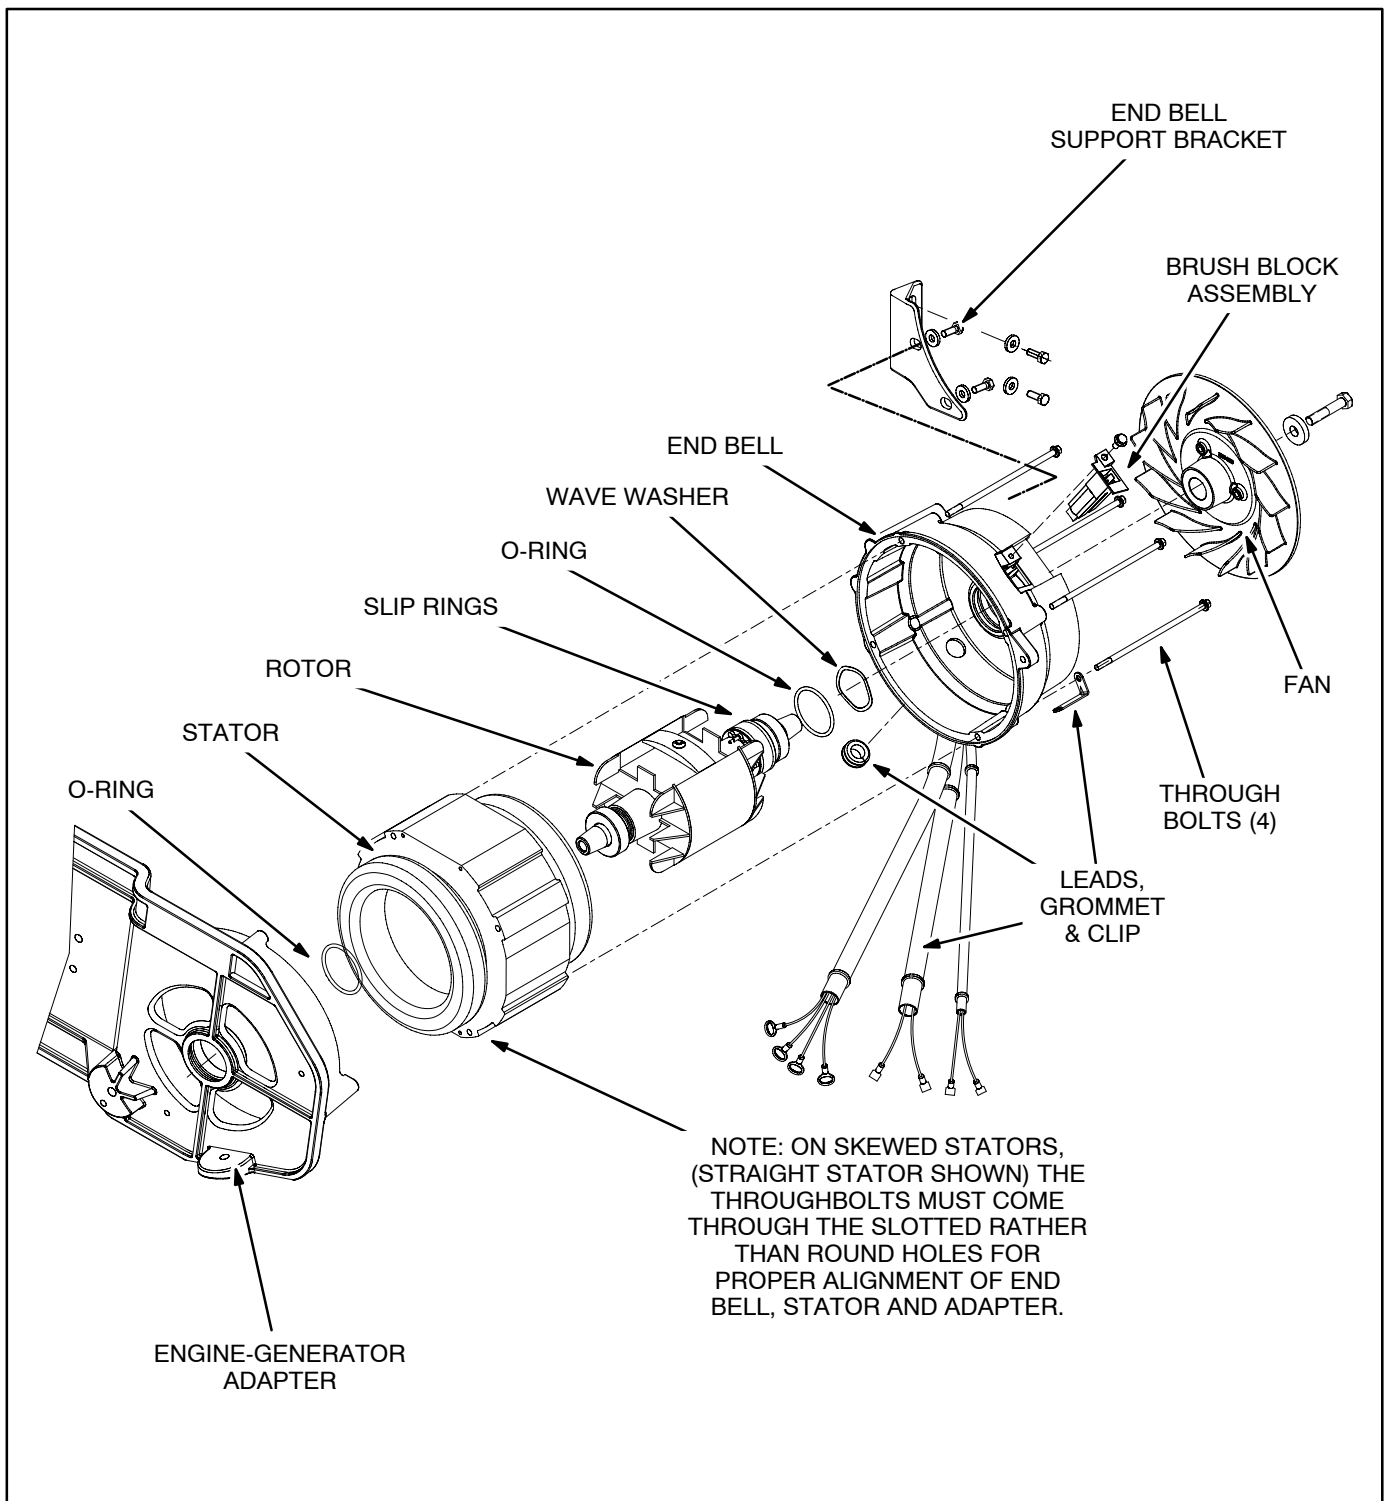

FIGURE 8-1. GENERATOR
These are 2-bearing, belt-driven, 2-pole revolving-field generators with brushes and slip rings (Figure 8-1). Output voltage is regulated by microcontroller-based genset controller (Page 9-1).
2. Align the stator and end bell with the line scribed on them during disassembly. **Note:** **Figure 8-1 shows a straight stator and the through bolts lined up to pass through round holes in the stator laminations. On models with skewed stators the through bolts must pass through slotted holes for the end bell, stator and adapter to line up properly.**